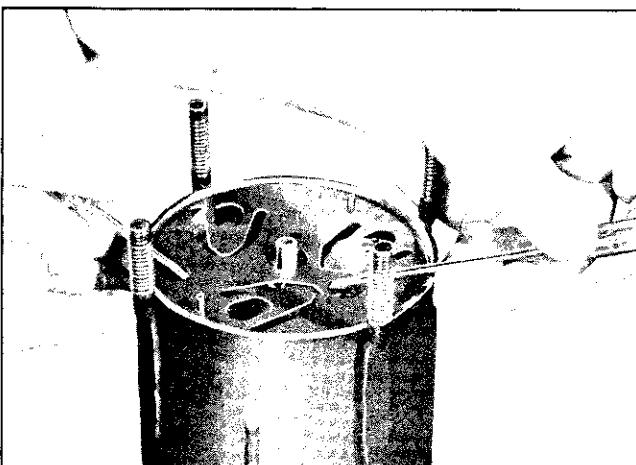

Fig. 1A-20 Removing Suction Reed
4. Remove O-ring from interior of front head casting bore. (A wire with a hook formed on the end may be used. This hook may be made in a manner as shown in Fig. 1A-17).
5. Remove oil inlet tube and O-ring, using a wire with a hook formed in one end (Fig. 1A-21).